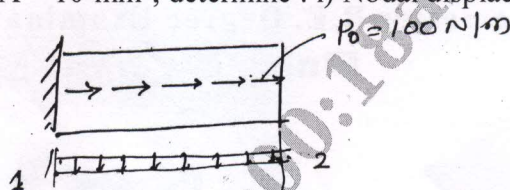

Fig Q4(a)
- 4 a. Figure Q4(a) shows a bar subjected to uniformly distributed load 'P0' as shown Fig Q4 (a). Taking  $E = 70\text{GPa}$ , Area  $A = 10^4\text{mm}^2$ , determine : i) Nodal displacement ii) Stresses